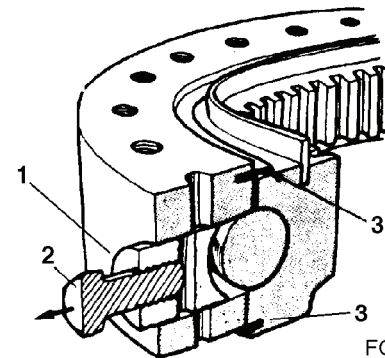

Figure 4
2. Remove plug (1, Figure 4) using a M10 x 1.25 bolt (2).